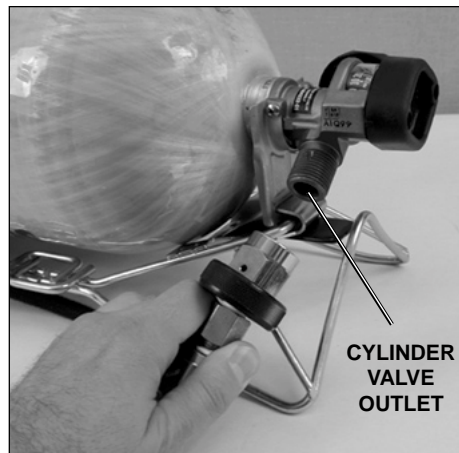

FIGURE 8
3. Check to ensure the cylinder valve outlet is clean and free from dirt. See FIGURE 8.